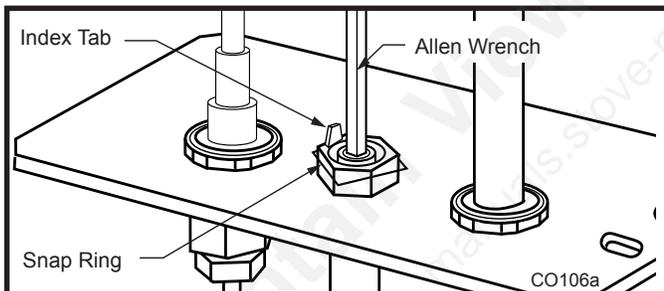

Fig. 75 Remove pilot orifice.
- Remove pilot orifice with Allen wrench. (Fig. 75)